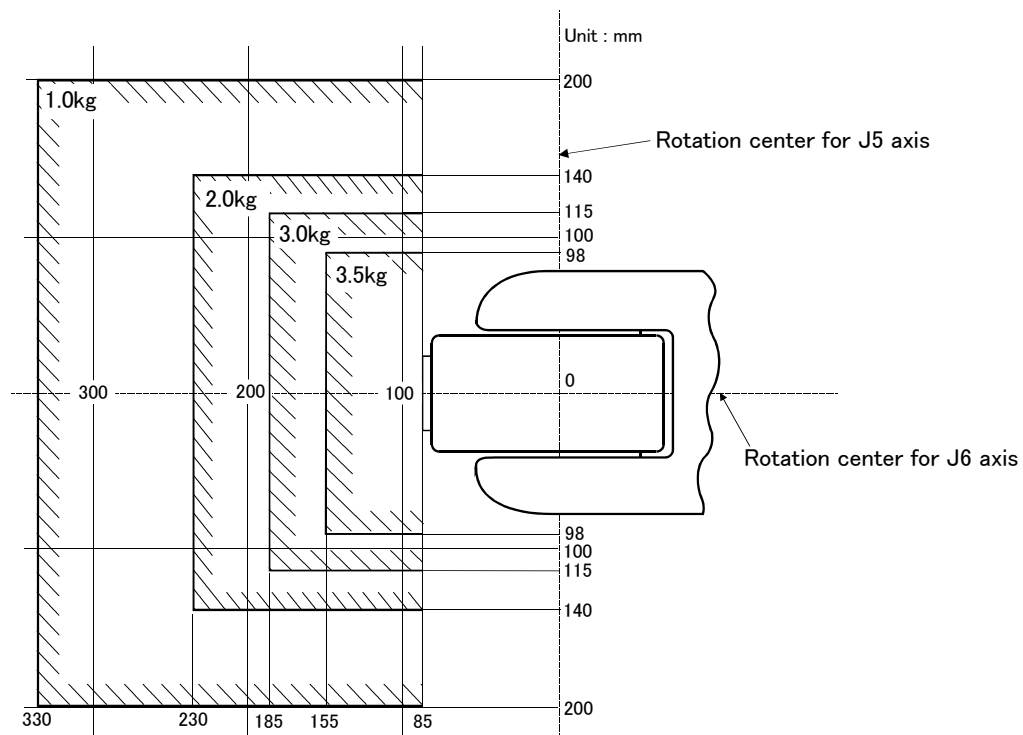

Fig.2-1 : Position of center of gravity for loads (for loads with comparatively small volume)
- (1) The tooling should have the value less or equal than the smaller of the tolerable inertia and the tolerable moment found in Page 7, "Table 2-1 : Standard specifications of robot"
- (2) Fig. 2-1 shows the distribution dimensions for the center of gravity in the case where the volume of the load is relatively small. Use this figure as a reference when designing the tooling.
- (3) When the load is not mass, but force, you should design the tooling so that it does not exceed the value for allowable moment described in Page 7, "Table 2-1 : Standard specifications of robot"